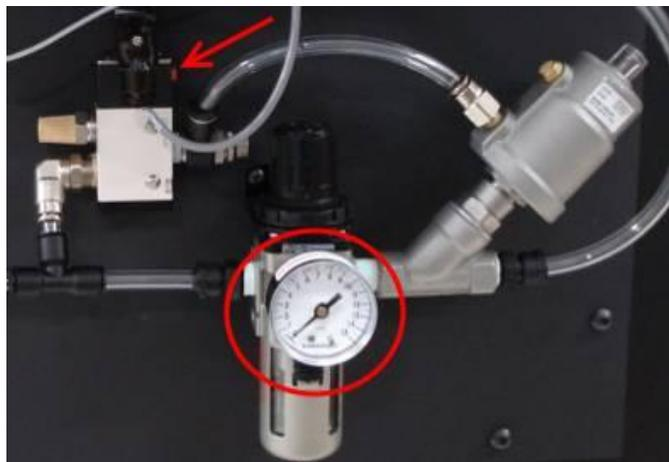

Figure 2. CRE Airflow Hardware
- **Airflow:** Airflow in the CRE Module is measured in psi (pounds per square inch), taken on an air pressure gauge installed on the side of the AXP system. Increasing the pressure on the gauge will increase the airflow of the system. Two different pressure settings can be read from the pressure gauge, one setting for when air is flowing to the CRE and one setting when it is not. Some variation between gauges is expected. Airflow should be recorded from the “air on” state to be most accurate. Airflow can be turned on manually by using a red button near the gauge. When reading the gauge hold the red button for at least 5 seconds before reading the gauge, to allow the pressure to stabilize. The pressure gauge and the airflow button are highlighted in **Figure 2** below.